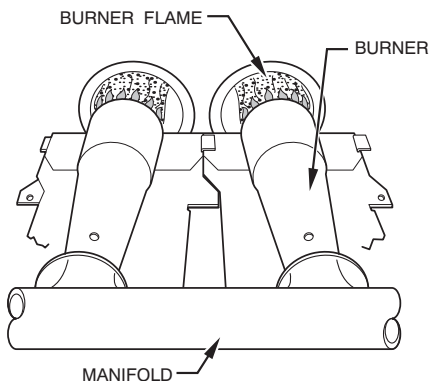

Fig. 62 – Burner Flame
8. Reverse items 6 through 1 for reassembly.
11. Check furnace operation through 2 complete heat operating cycles. Look at burners. Burner flames should be clear blue, almost transparent. See Fig. 62.